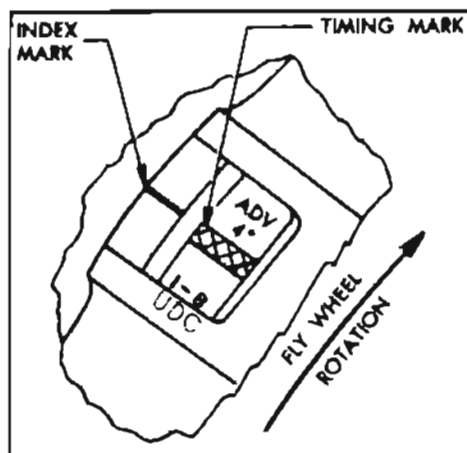

Figure 10-69—Ignition Timing Marks—Series 40-44-50
The timing mark stamped on flywheel is  $\frac{1}{8}$ " wide, knurled, and painted yellow. The  $\frac{1}{8}$ " width provides a tolerance of one degree when setting the timing. On Series 40-44-50, the timing mark is stamped "ADV 4°" and gives a timing setting  $4^\circ$  to  $5^\circ$  ahead of upper dead center. See figure 10-69. On Series 70, the timing mark is stamped "ADV 6°" and gives a timing setting  $6^\circ$  to  $7^\circ$  ahead of upper dead center.
stamped "U.D.C. 1-8", follows closely behind the ignition timing mark as the flywheel rotates. See figure 10-69. This mark must not be used for ignition timing.
3. Direct the beam of timing light into the timing hole so that the timing mark on flywheel and index mark on flywheel housing can be observed. See figure 10-69. The index mark must fall within the yellow band of the ignition timing mark for proper timing.